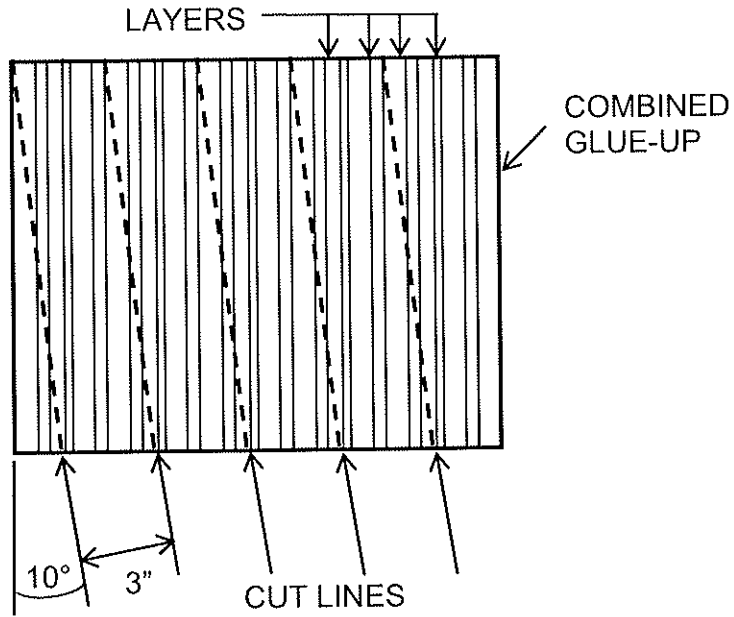

Figure 1. Roller Blank Cut Lines
12. After the glue is set and the clamps are removed, draw a line on the side of the combined stack starting at one corner and going at an angle of 10 degrees to the end face. Mark additional lines parallel to the first line and 3 inches apart across the blank. See Figure 1, below. Using the band saw, cut along each of the 10 degree lines. Then square the ends of each of the separate roller blanks.